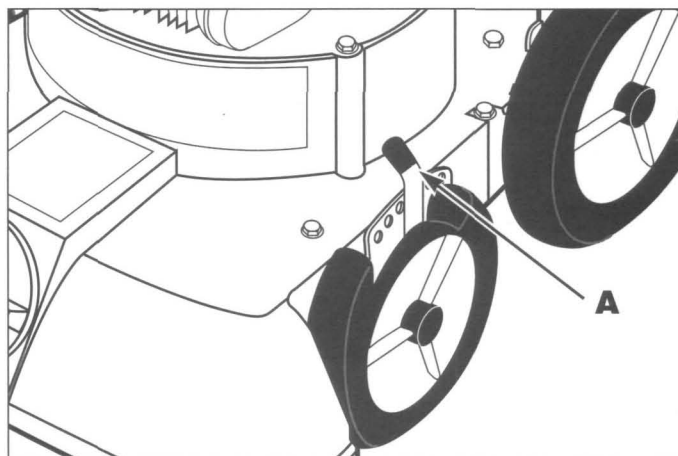

Figure 11: Vacuum Height Adjustment Lever.
The vacuum inlet height can be adjusted to six different settings in approximately 1/2" increments. These settings allow inlet suction to be adjusted for varying needs. For example, when vacuuming deep layers of leaves, adjust the vacuum inlet height at the front of the machine to its highest setting as described below (see Figure 11):
B. Squeeze the adjuster lever (**A** in Figure 11) toward the wheel to disengage the adjuster pin from the hole in the height adjuster bracket.